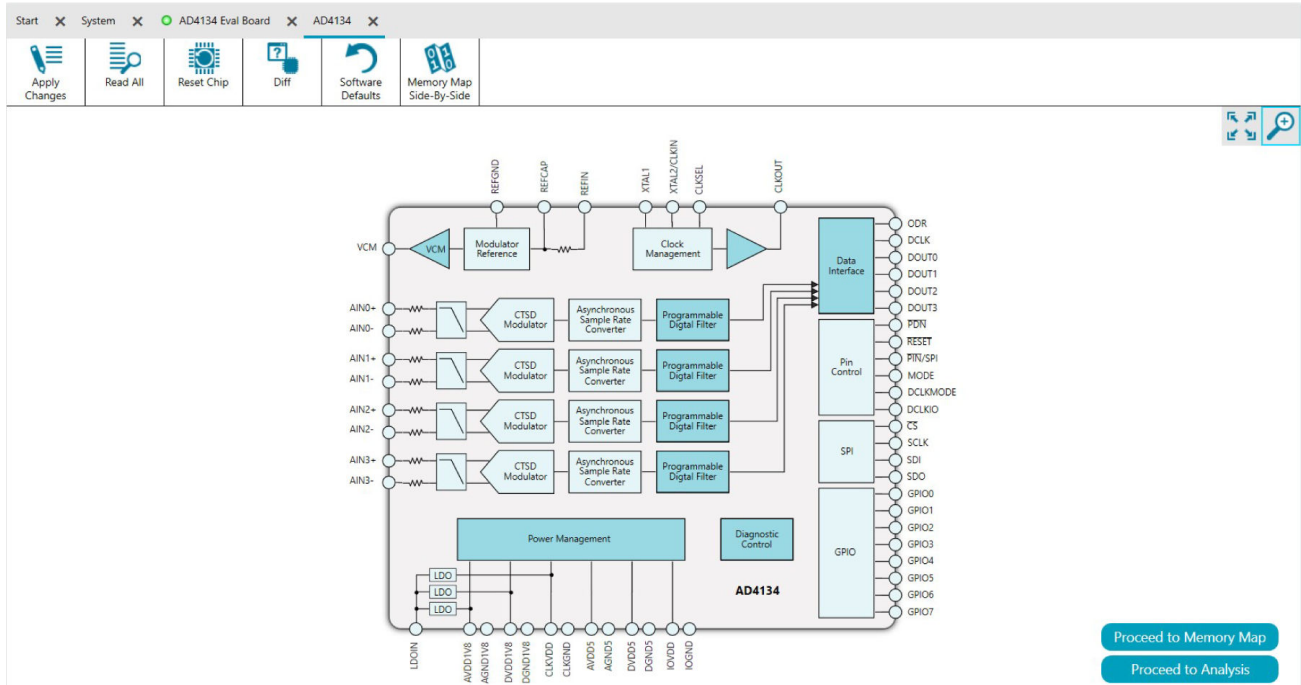

Figure 13. AD4134 Chip View Window
- Double click on the **AD4134** chip icon in the **AD4134 Eval Board** view window to open the **AD4134** chip view window shown in Figure 13.
The AD4134 chip view window shows the programmable blocks (see Figure 13). Dark blue block icons are programmable blocks.